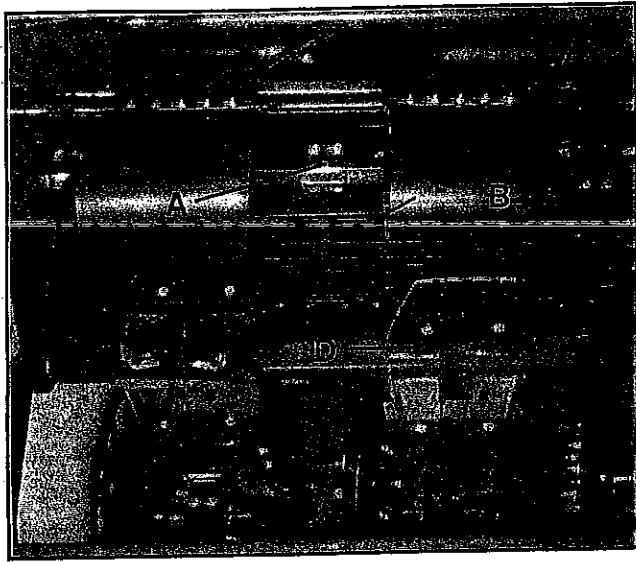

FIGURE 22 - BARRIER ADJUSTMENT
When flex lifter wheel struts are used, the paddle shaft bearings must stay in the *top* holes and rubber paddles (B) (see Figure 22, page 18) are attached to the steel paddles. With the paddle shaft in the top holes, the lifter wheel struts can flex without hitting the paddle shaft. The rubber paddles are added to bring the active tips of the paddles to the desired positions.
To adjust barriers (see Figure 22, page 18), loosen bolts (A), center barriers between lifter wheels, tighten bolts.